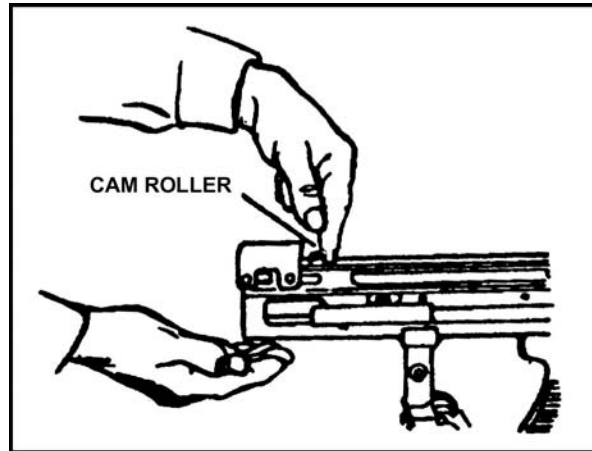

Figure 4. Cam roller.
- (1) Grasp the pistol grip with the left hand.
- (2) Pull the cocking handle to the rear with your right hand until the bolt separates from the barrel socket.
- (3) Return the cocking handle to the forward position.
- (4) Pull the cam roller until it stops. This pulls the rod and bolt to the rear.
- (5) Push the bolt to the rear with your finger on the face of the bolt (Figure 4).